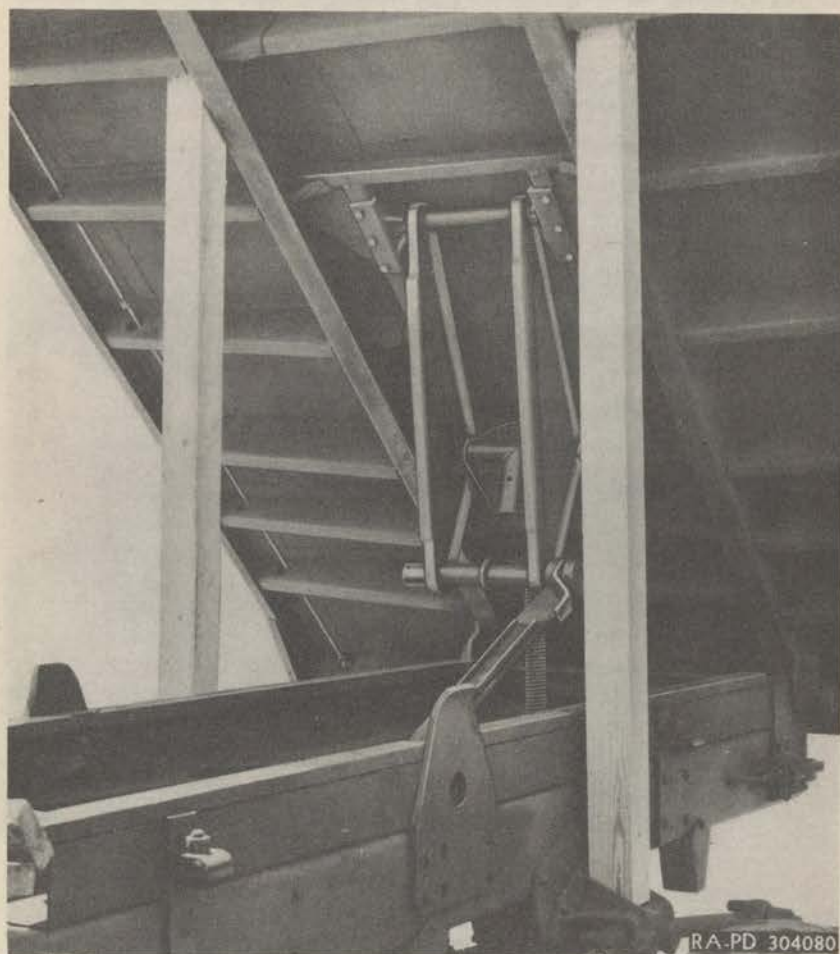

Figure 196—Dump Body Blocked, Hoist Removed
(2) **RAISE AND BLOCK BODY.** Raise the body just high enough to permit the installation of two 4 x 4 braces, about 6 feet long, between the torque rod and brackets, and the second cross member under the dump body (fig. 196). Do not raise the body too high, as the automatic stop has been disconnected. Insert the brace in position and then lower the body so that the brace takes the load.